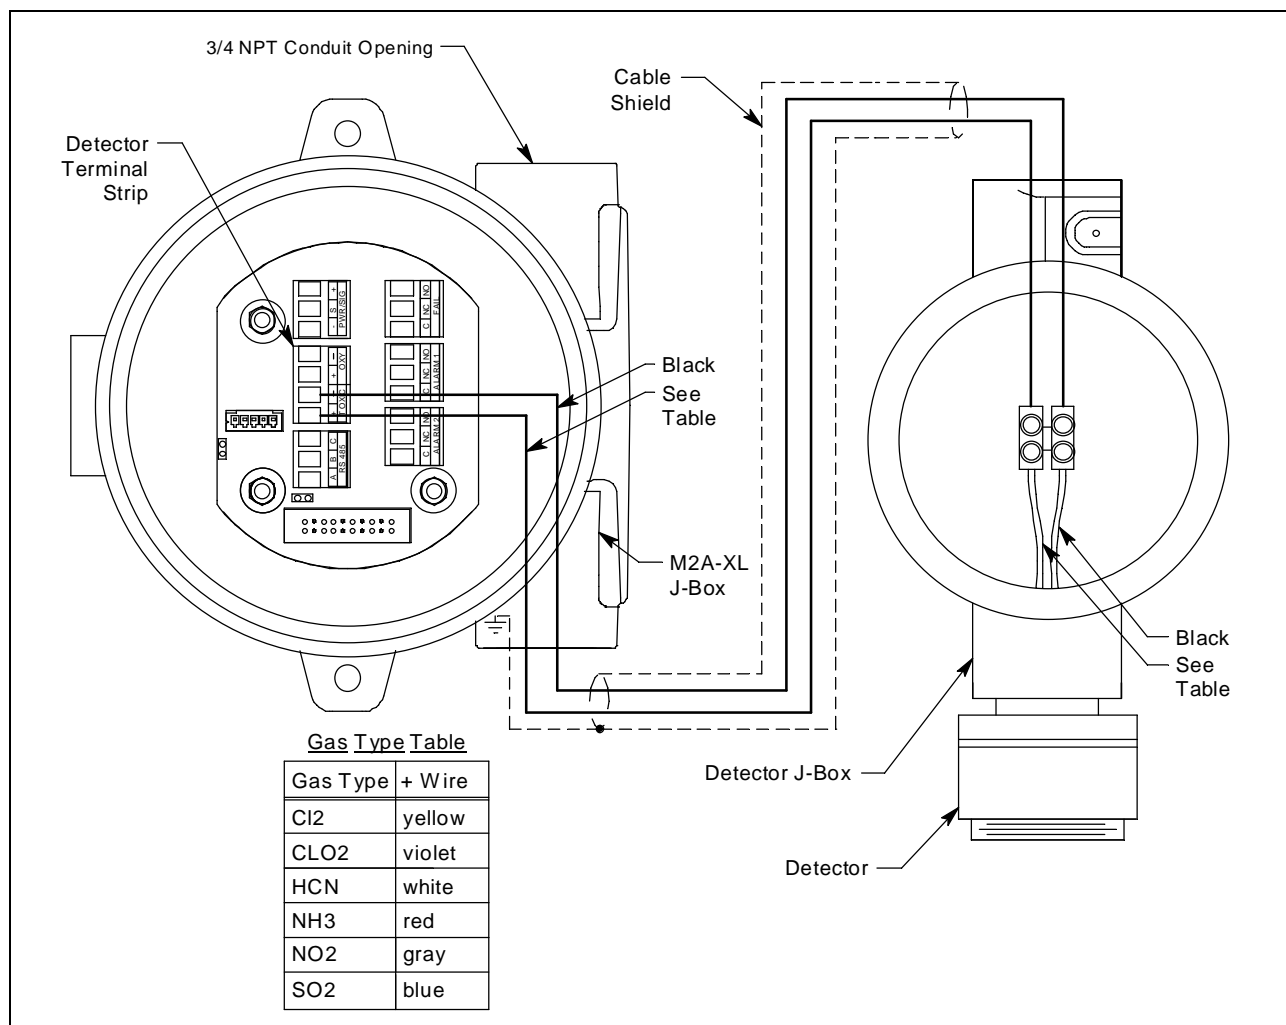

Figure 8: Wiring the Detector to the M2A-XL
13. Pull out the detector terminal strip and connect the two wires to the terminal strip as follows (see Figure 8).